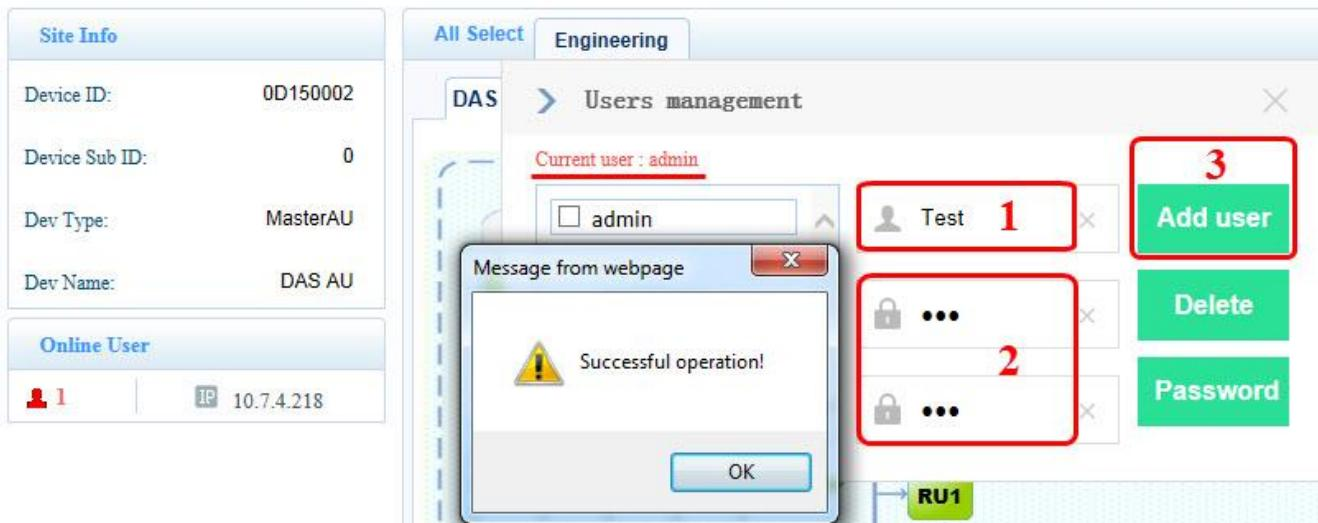

Figure 2-15 Add User
- a) Enter the new username. See 1 in the Figure 2-15.
- b) Enter the password and confirm. See 2 in the Figure 2-15.